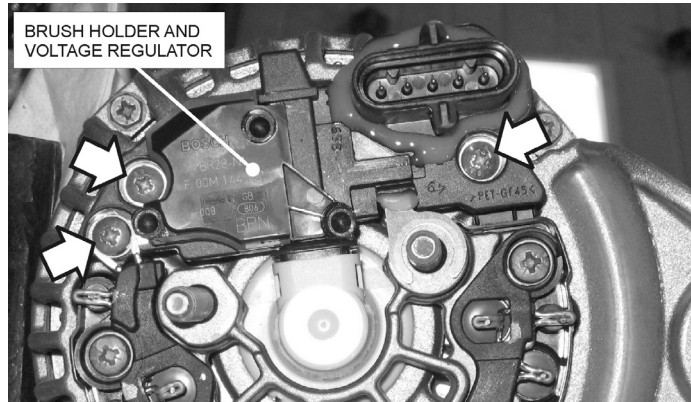

FIGURE 3
4. Install the new brush holder and tighten the screws indicated on figure 3.